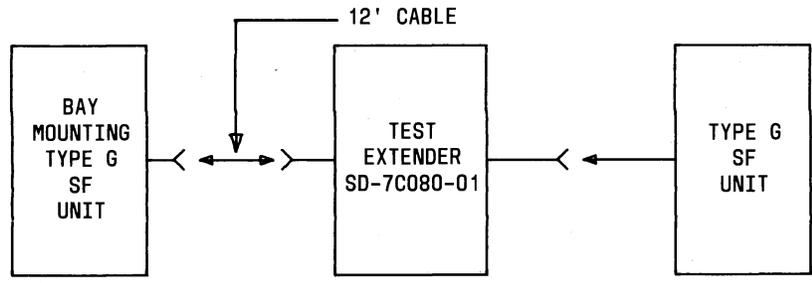

Fig. 11—Test Extender Connections
2.24 The test extender, SD-7C080-01, has been provided to facilitate monitoring of signals at the input and output ports or making adjustments to the SF units. The test extender, as illustrated in Fig. 10, consists of a printed wiring board, a 12-foot cable, and an adapter. When signals at the line or equipment ports are to be monitored or adjustments made, the G-signaling unit must be removed from the frame module and plugged into the adapter. Before the unit is removed and any adjustments or tests are made, the circuit must be made busy. The printed wiring board of the test extender must then be plugged into the module where the signaling unit was removed. The test extender allows the SF unit to remain electrically connected to the circuit. Figure 11 illustrates the connections necessary to place the test extender in a monitoring or adjustment mode of operation.